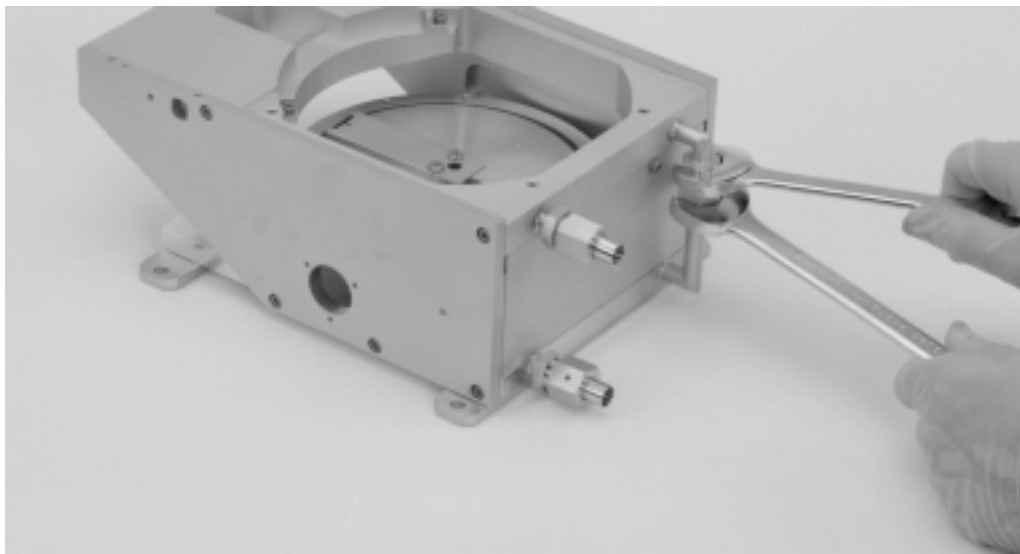

Figure 6-14. Uncoupling the water-crossover tube
Step 13: Uncouple the tube connecting the gun's upper and lower water circuits. Using appropriate wrenches, hold the nut soldered onto the fitting connected to the coil housing while turning the coupling on the fitting connected to the base plate (see Figure 6-14).